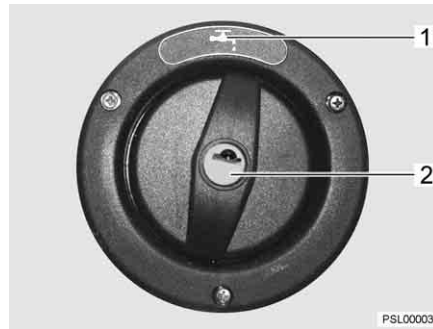

Fig. 164 Cap for the drinking water filler neck
The drinking water filler neck is indicated by the symbol "🔑" (Fig. 164,1). The cap is open and closed using the key for the external flap locks.
- Insert key into locking cylinder (Fig. 164,2) and turn a quarter turn in an anticlockwise direction.